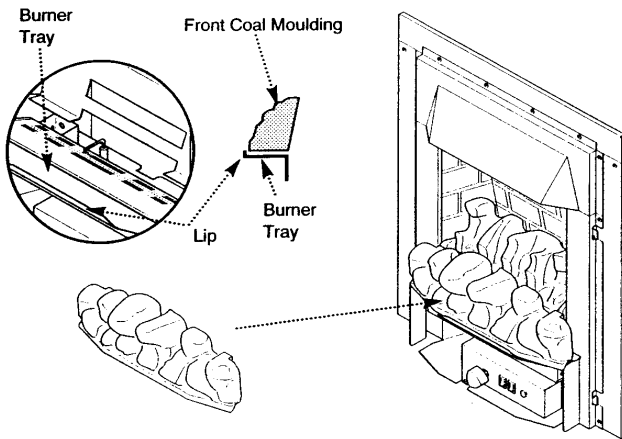

Fig. 39
2. Carefully position the front coal moulding on the burner tray with the front edge of the moulding behind the lip. The rear edge of the moulding should then rest on the front of the burner (Fig. 39).